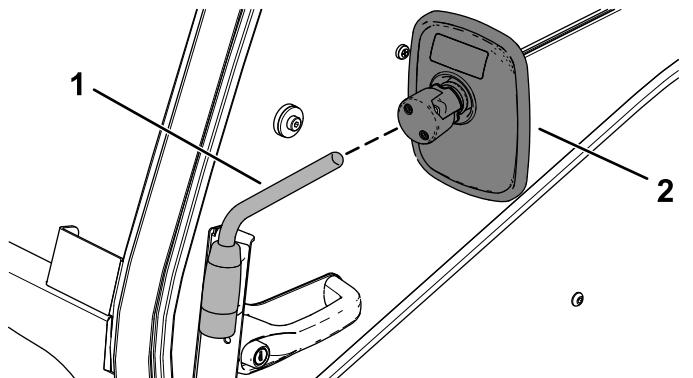

Figure 6
8. Slide the mirror onto the mirror arm, and adjust the mirror to your desired angle (Figure 6).